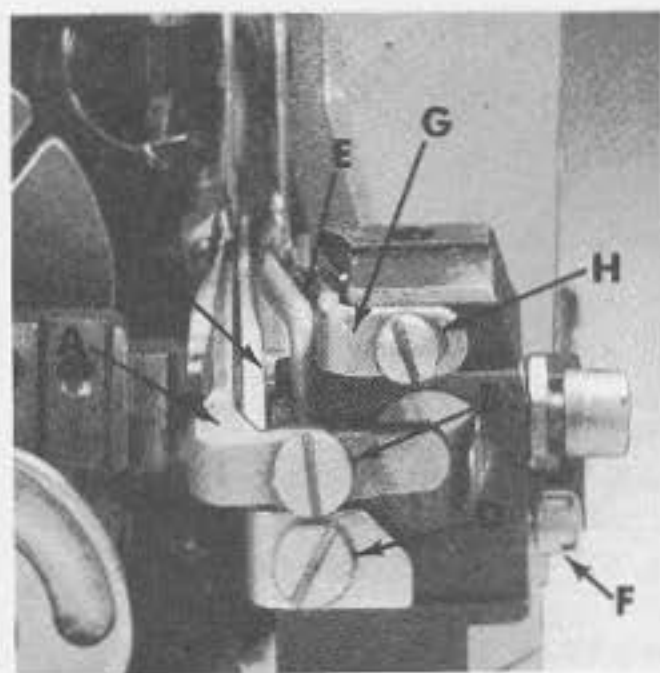

Fig. 9
When overedge lower looper point is at needle scarf, set overedge rear needle guard (A, Fig. 9) so that it touches but does not deflect the needle, .000 to .004 inch (.000 to .102 mm) clearance. Check to ensure that needle guard does not interfere with the lower looper or movement of the lower knife holder. Screw (B) is used to set the rear needle guard. The needle thread is to be free to pass through the needle eye without being pinched by the needle guard with the needle down.
With needle at bottom position, set front overedge needle guard (C, Fig. 9) to touch but not deflect needle, .000 to .004 inch (.000 to .102 mm) clearance. Guard should not pinch thread in needle eye. Screw (D) is used to set front needle guard. After making adjustment, make sure there is no interference between needle guards and differential feed dog.